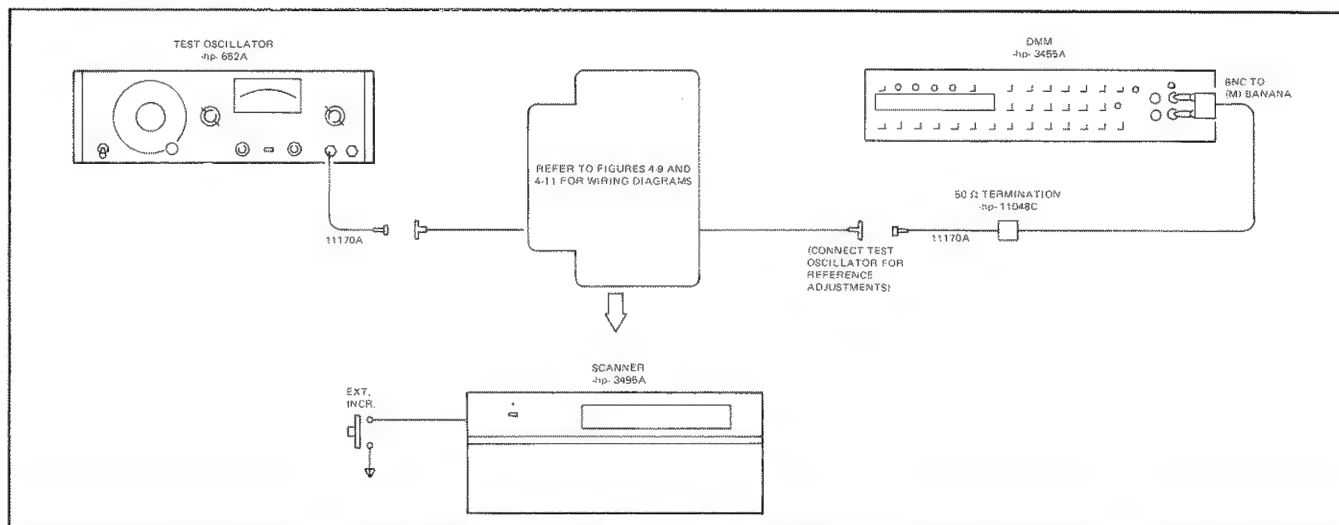

Figure 4-10. Frequency Response Test Setup.
a. Connect the test setup as shown in Figure 4-10. Do not wire the connector at this time.
m. Reconnect the test oscillator to the scanner as shown in Figure 4-10.